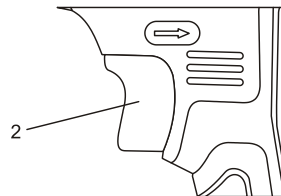

Fig. 5
1. To start the impact wrench, gently squeeze the trigger switch (2) (Fig. 5).